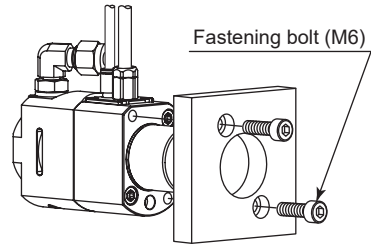

Fig. 29
- (1) Insert the spindle body housing (diameter  $\phi 31$  mm) section into the fixed base of the machine tool.
- (2) Secure the spindle through the mounting holes (2 locations) using the fastening bolts (M6). (Fig. 29)